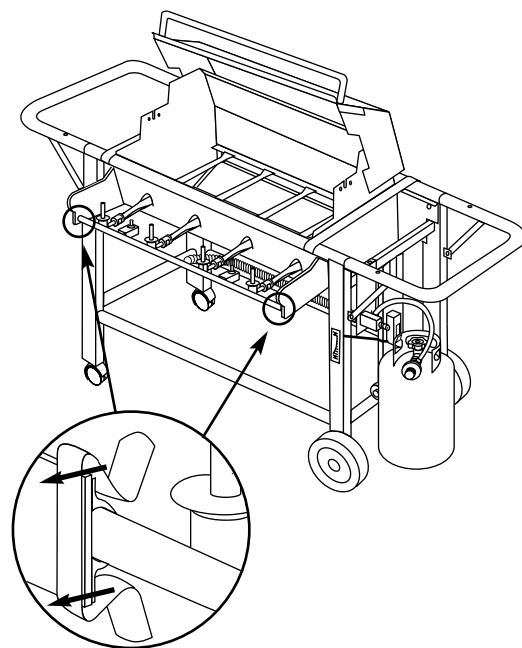

Figure 10
7. Remove the manifold by unsnapping the clips at the right and left front of the cooking box. Figure 10.